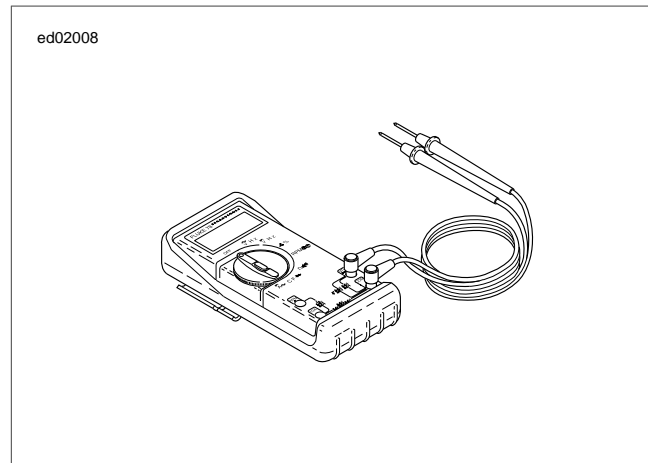

Figure 1-26. Digital Multimeter (Fluke 78) (Part No. HD-39978)
- See Figure 1-26. Connect DIGITAL MULTIMETER (FLUKE 78) (Part No. HD-39978) to wiring harness between the suspect connections. When diagnosing ECM connections, use BREAKOUT BOX (Part No. HD-43876) to simplify the procedure. See 1.2 DIAGNOSTIC TOOLS.